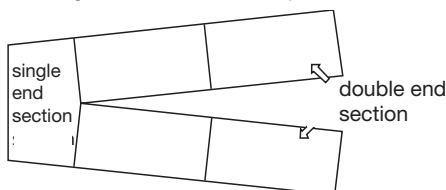

Figure 1
2. Place single end section table upside down onto a soft surface. See figure 1.